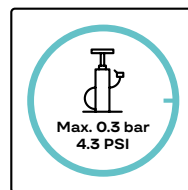

Fig. 5
- The tube may only be filled to a maximum of 0.3 bar/4.3 psi air pressure before installation is complete (**Fig. 5**).